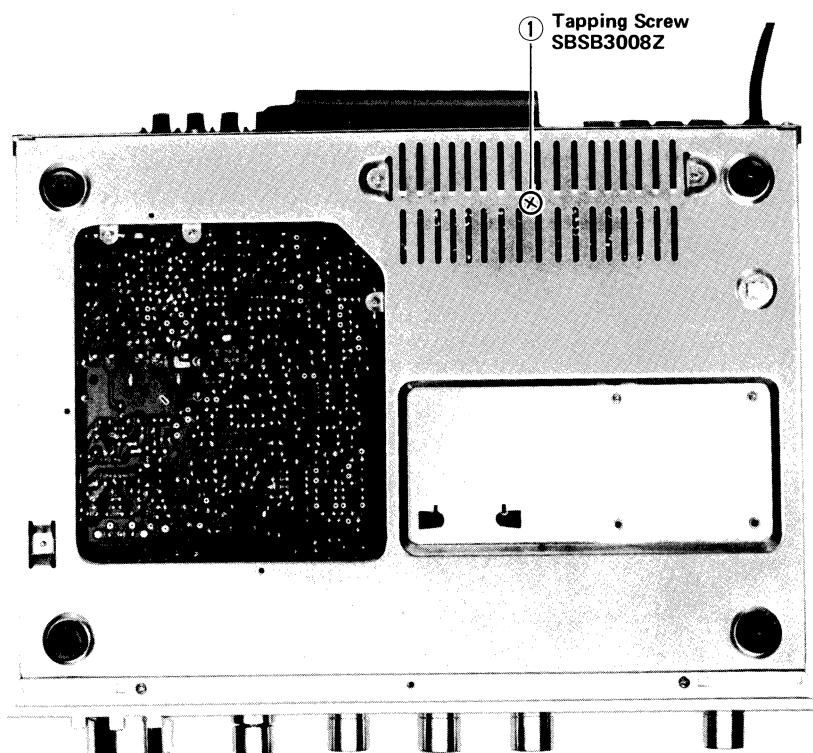

Fig. 6B
1. Remove one tapping screw (Item No. 1) from the bottom of chassis. Refer to Fig. 6B